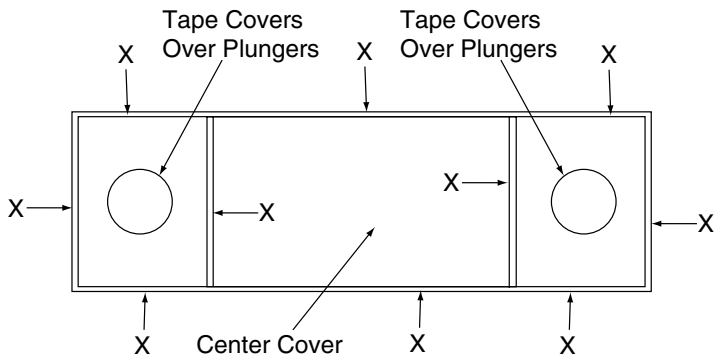

Fig. 6
A. Duct tape joint areas indicated by X, Fig. 6, to protect these areas during backfill and concrete work. Backfill around unit using only pea gravel to within 18" of top of finished floor.